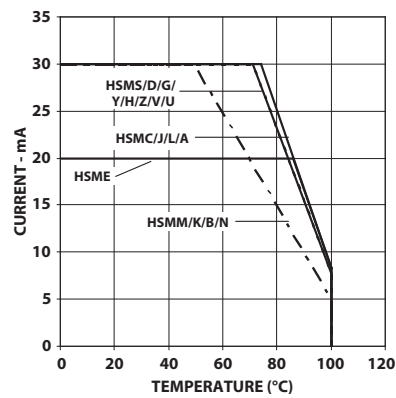

Figure 4. Maximum forward current vs. ambient temperature. Derated based on $T_{JMAX} = 110^{\circ}C$, $R\theta_{JA} = 500^{\circ}C/W$.
1. Derate linearly as shown in Figure 4.